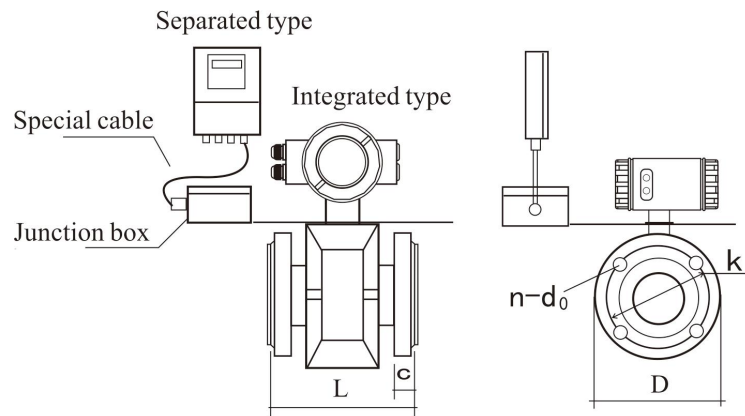

Figure 2
4.2 Appearance and installation size of the sensor, see Figure 2